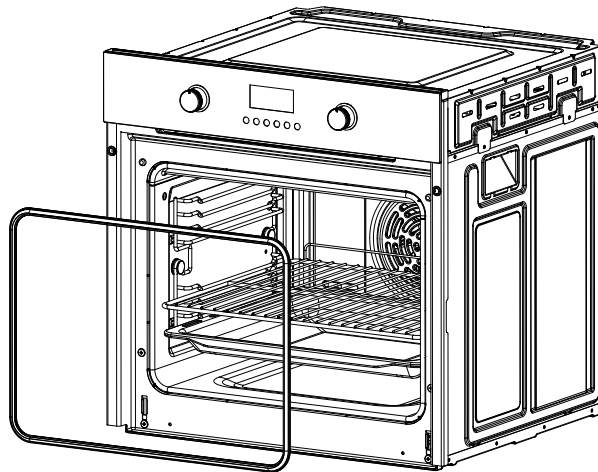

Figure 4
1. Prop the one of angel of obturating ring, and remove the obturating angel by angel. (See figure 4).
2. Insert rotary grilling bracket into oven layer 4 (figure 4) (the location of rotary grilling bracket can only be inserted into the layer 4, rotary grilling broach can normally use).; (See figure 4).